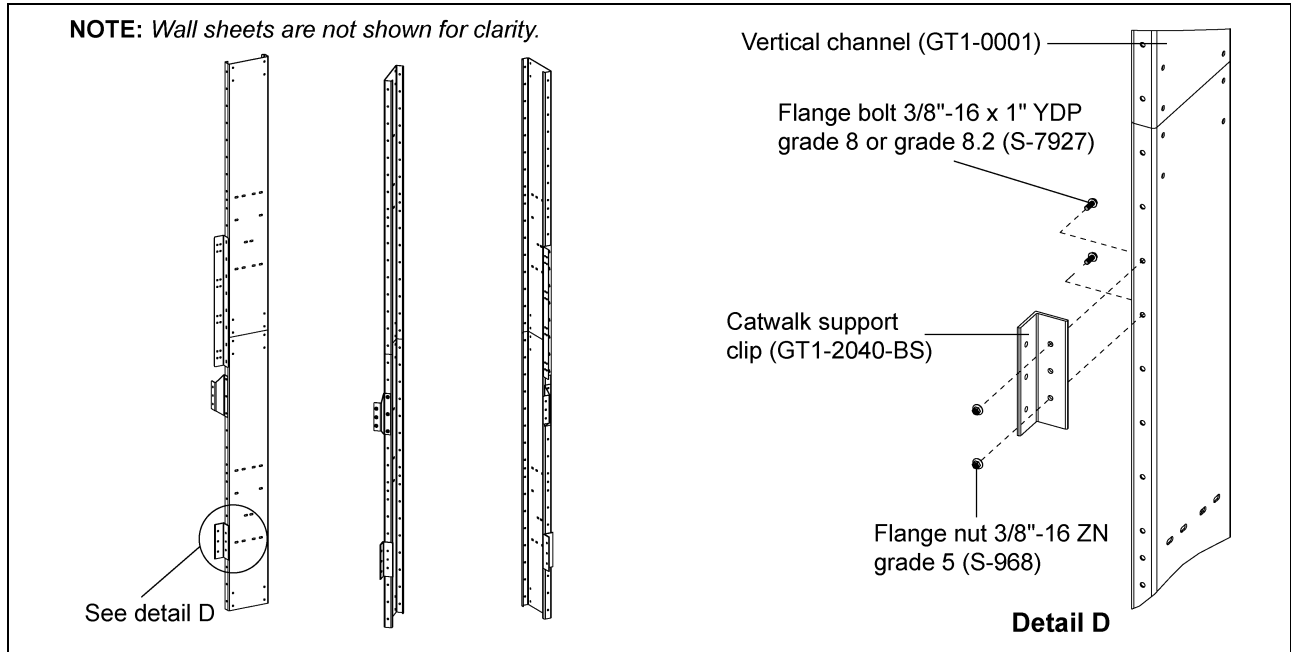
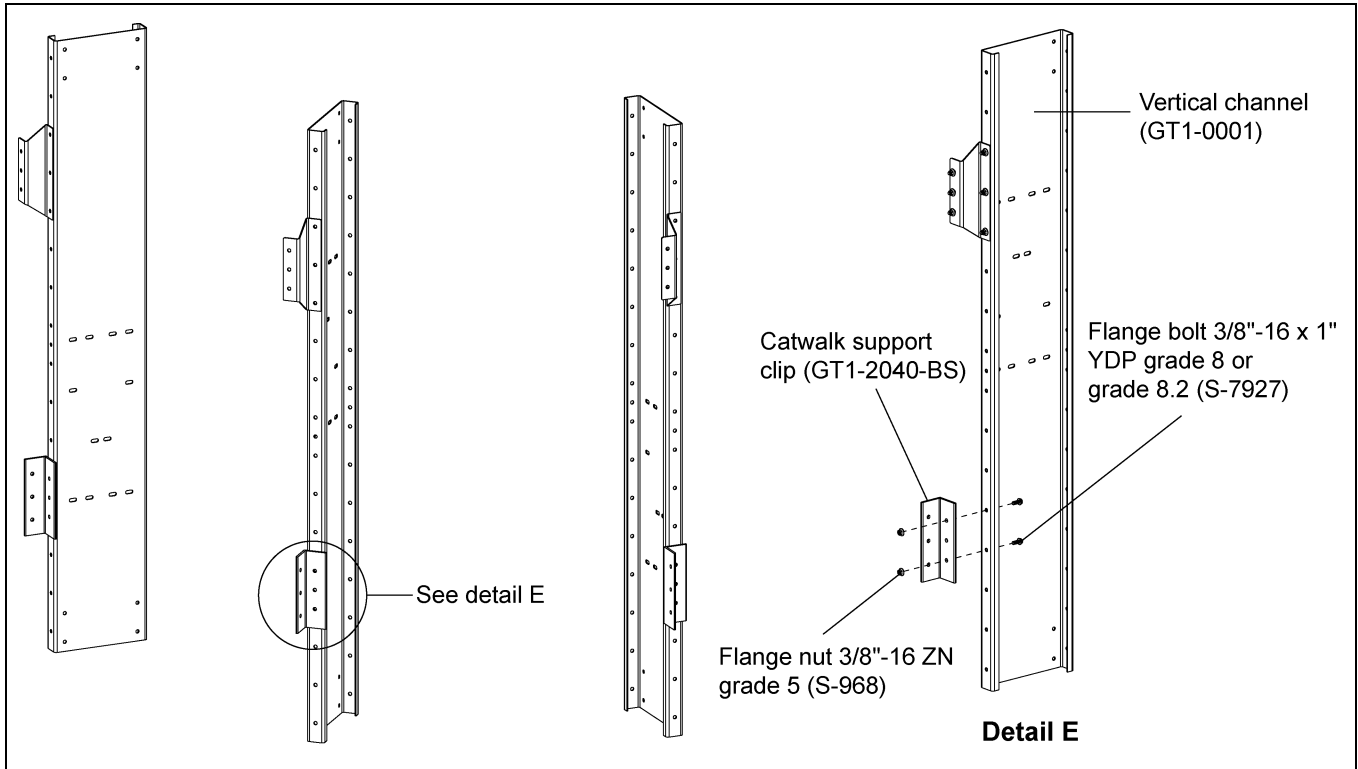

Figure 6G Offset Catwalk Support Clip Installation
Figure 6I Roof Hatch Catwalk Support Clip Installation
1. Install catwalk support clips (GT1-2040-BS) to vertical channels (GT1-0001). Support clip can be installed on each vertical channel as the wall sheets are installed using 3/8"-16 x 1" YDP grade 8 or grade 8.2 bolts (S-7927) and 3/8"-16 ZN grade 5 nuts (S-968). (See Figure 6G below and Figure 6I on Page 44.)